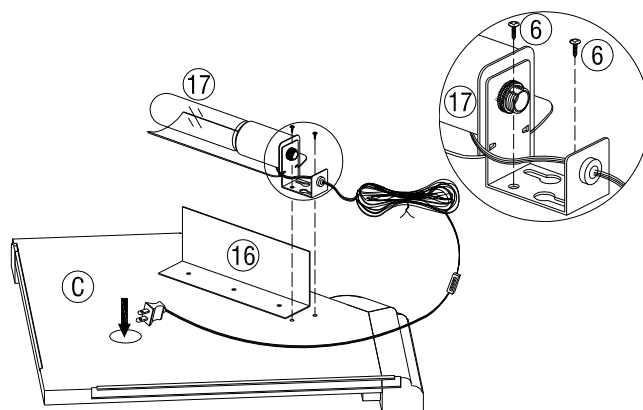

FIGURE 3
5. INSERT SMALL FLAT HEAD WOOD SCREWS (6) THROUGH THE HOLDER OF LIGHT (17) AND TIGHTEN INTO PREDRILLED HOLES ON UNDERSIDE OF TOP PANEL (C). LEAD THE POWER CORD ON THE LIGHT (17) THROUGH THE HOLE ON TOP PANEL (C) TO UPSIDE OF TOP PANEL (C). AS SHOWN IN FIGURE 3.